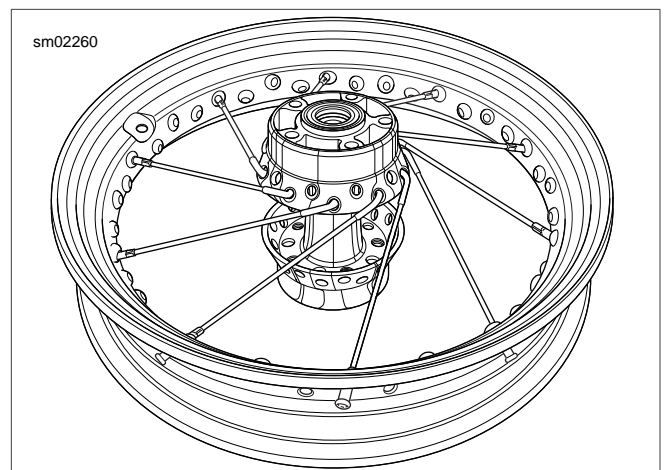

Figure 2-23. Brake Side Up: Bottom Row of Spokes Laced
4. See Figure 2-23. Install the rest of lower row spokes in every fourth hole.